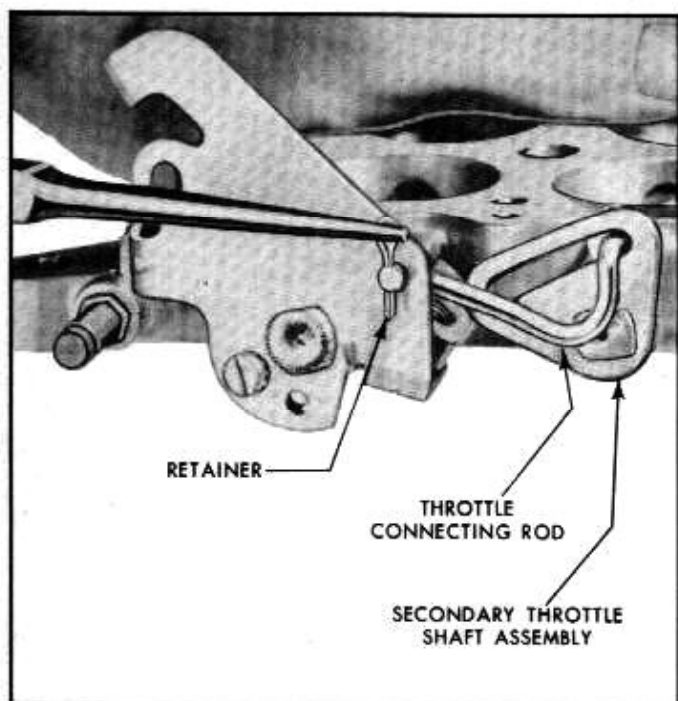

Fig. 9D-46—Removing Throttle Connecting Rod Retainer
10. Remove the two throttle connecting rod retainers and the washer. See figure 9D-46.